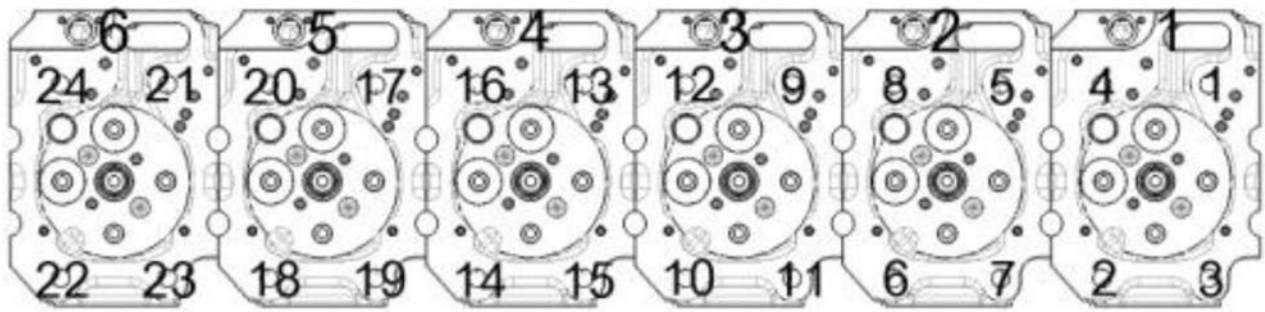

Figure 61. Cylinder Head Main Bolt Assembly
5. Remove the cylinder head main bolts in the following order 1-24 (Figure 61).